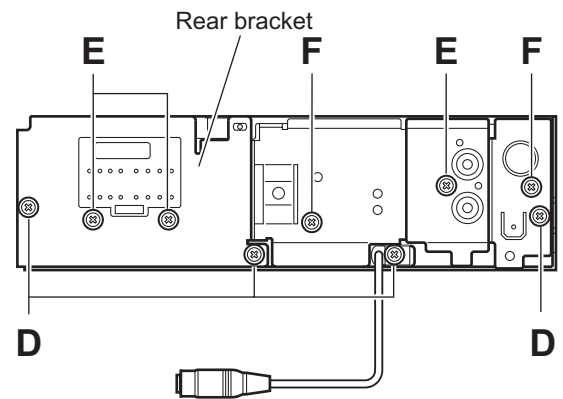

Fig.5
(See Fig.5)
### 3.1.6 Removing the main board (See Figs.5 and 6)
- Remove the three screws **D** attaching the rear bracket on the back side of the main body. (See Fig.5.)